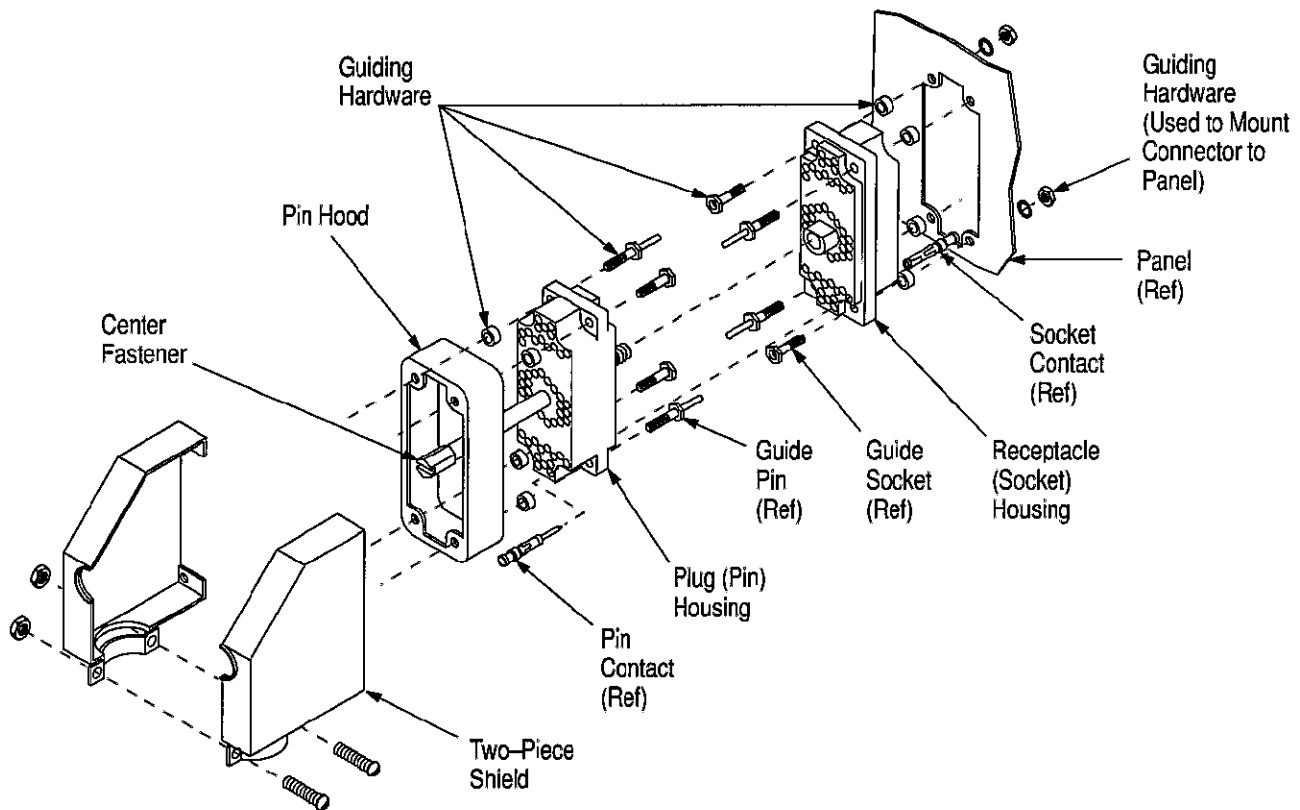
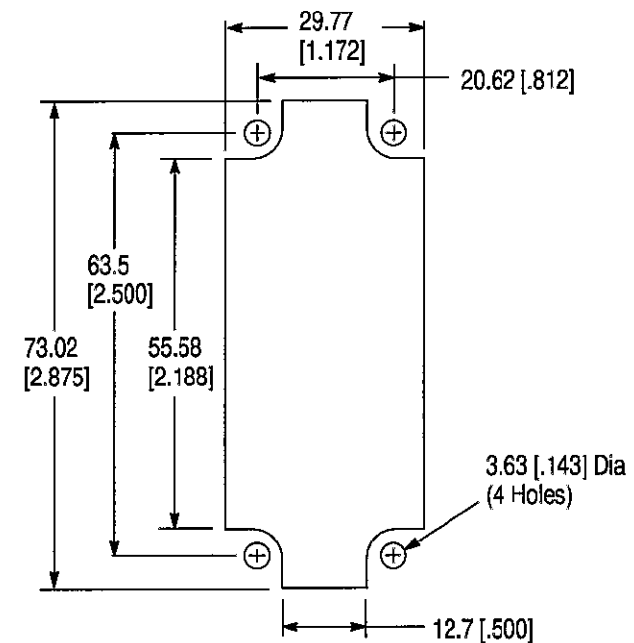

Figure 2
Figure 3
1. Assemble the plug and receptacle housings using the hardware shown in Figure 2. Use a  $\frac{5}{16}$ -in. socket hex wrench to secure the center fastener. See Figure 2.
2. Mount the connector to the panel, using the hardware shown in Figure 2. Refer to Figure 3 for the recommended panel cutout dimensions.